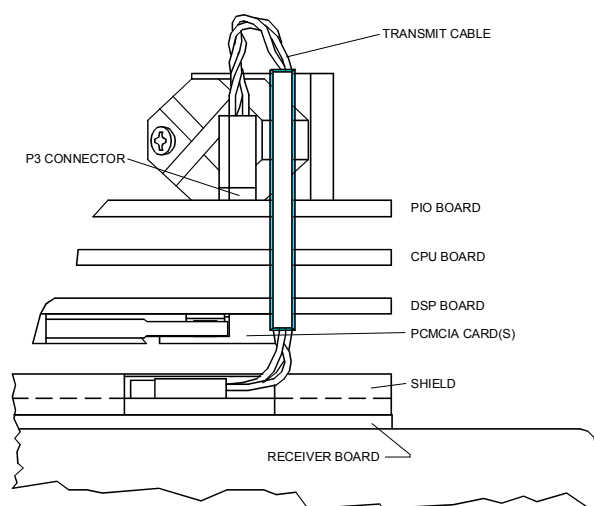

Figure 1. Transmit Cable
- c. Note the orientation of the transmit cable connector as it is plugged into the PIO board and to the Receiver board (see Figure 1).